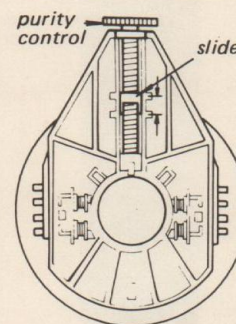

Fig. 4-1.
- Adjust purity control to centre the slide between two projections as shown in Fig. 4-1.